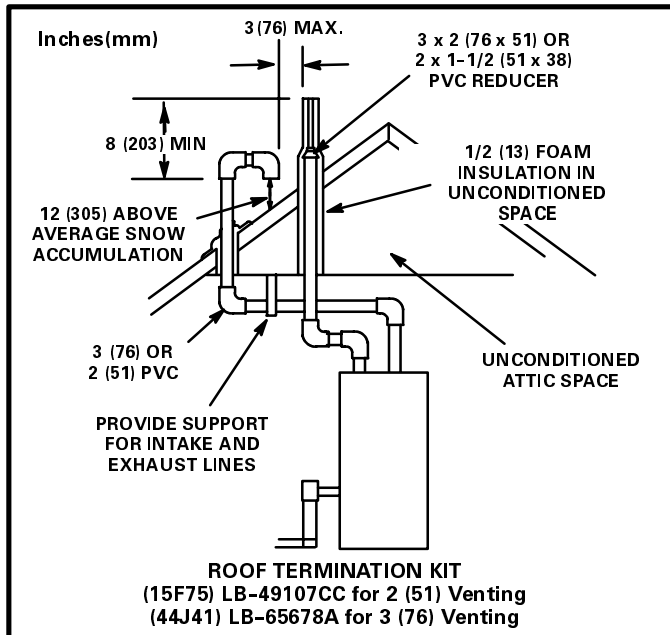

FIGURE 7
Intake and exhaust pipes may be routed either horizontally through an outside wall or vertically through the roof. In attic or closet installations, vertical termination through the roof is preferred. Figures 7 through 18 show typical terminations.
- 5 – Exhaust piping must terminate straight out or up as shown. On roof terminations, the intake piping should terminate straight down using two 90° elbows (See figure 7). In rooftop applications, a 2" X